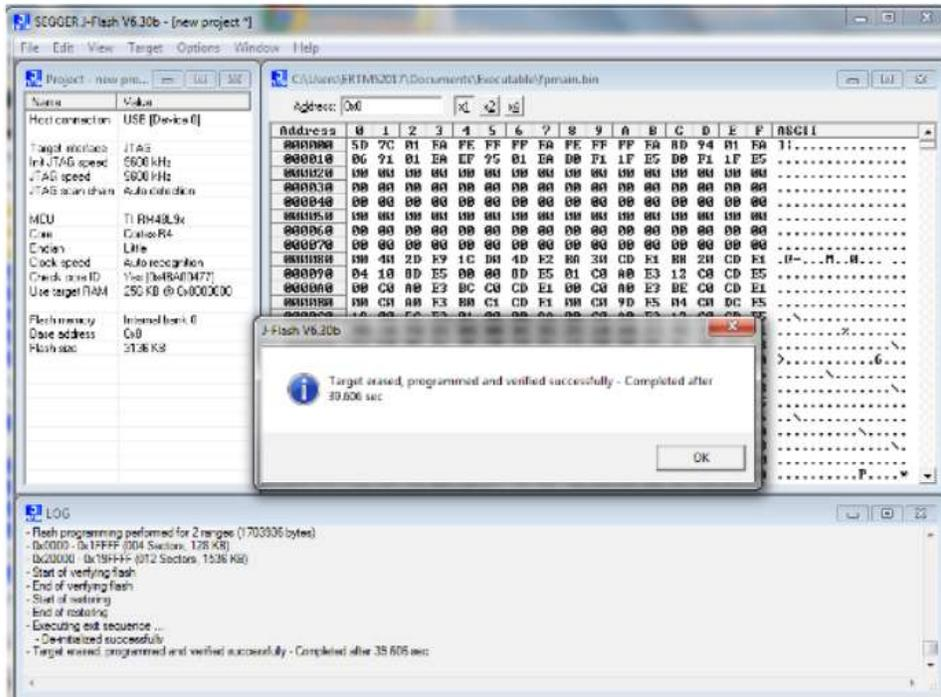

Figure 15: Hercules programmed and verified successfully [Program\_done]
16. When the software is loaded on the Hercules processor, the timeline on the pop-up is replaced by the message “Target erased, programmed and verified successfully – Completed after ... sec”. Click “OK” (Figure 15, STMA-69063);